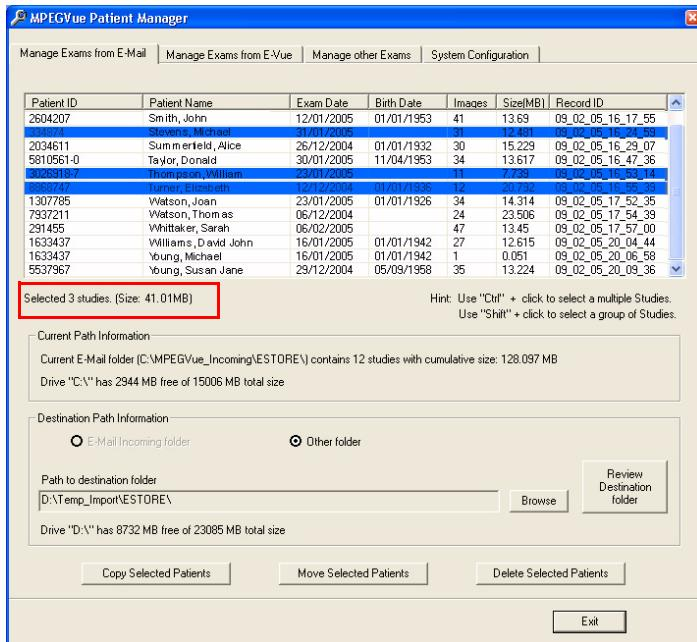

Figure 3-137 Exams Selected
b.) Select the required exam or exams, as shown in Figure 3-137.
The currently-selected exams are now highlighted in the list and, as shown in Figure 3-137, the cumulative size of the 3 studies is displayed below.